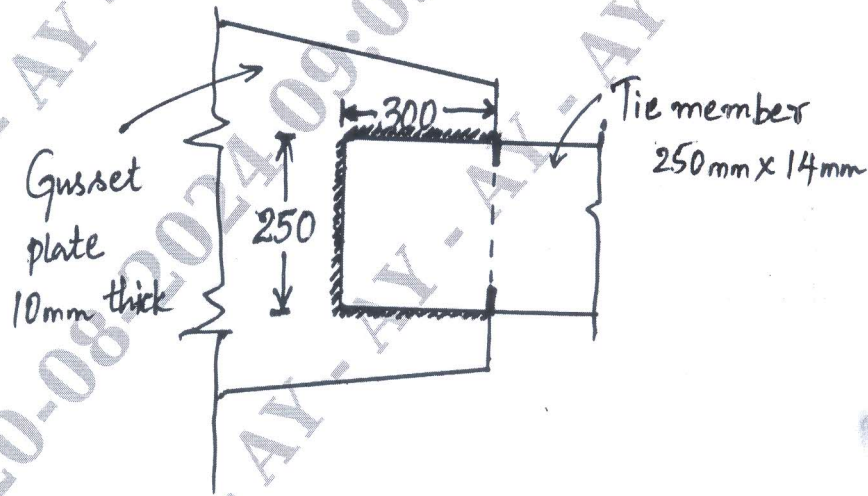

Fig. Q3 (c)
- c. A tie member in a truss girder is 250mm x 14mm in size. It is welded to a 10 mm thick gusset plate by a fillet weld. The overlap of the member is 300 mm and the weld size is 6 mm. Determine the design strength of the joint, if the welding is done as shown in Fig. Q3 (c). What is the increase in strength of the joint, if welding is done allround. Assume shop welding. (08 Marks)